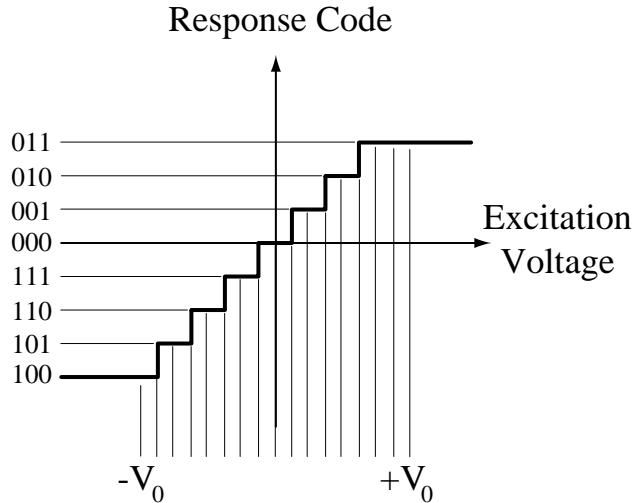

Figure K-3 ADC input-output relationship
The input signal to the ADC is a continuous-time signal and the output signal is a discrete-time signal. Not only is the output signal of the ADC discrete-time but it is also *quantized* and *encoded*. The number of binary bits produced by the ADC is finite. Therefore the number of unique bit patterns it can produce is also finite. If the number of bits the ADC produces is  $n$ , the number of unique bit patterns it can produce is  $2^n$ . *Quantization* is the effect of converting a continuum of (infinitely many) input signal values into a finite number of output signal values. Since the output signal has an error due to quantization, it is as though the signal has noise on it and this noise is called quantization noise. If the number of bits used to represent the output signal is large enough, quantization noise is often negligible in comparison with other noise sources. After quantization the ADC encodes the signal also. Encoding is the conversion from an analog voltage to a binary bit pattern. So the input signal to an ADC is an analog (CT) voltage and the output signal is a sequence of binary numbers (or codes). The relation between the input and output signals of an ADC whose input voltage signal voltage range is  $-V_0 < v_{in}(t) < +V_0$  is illustrated in Figure K-3 for a 3-bit ADC. (A 3-bit ADC is rarely, if ever, actually used but it does illustrate the quantization effect nicely because the number of unique bit patterns is small and the quantization noise is large.)